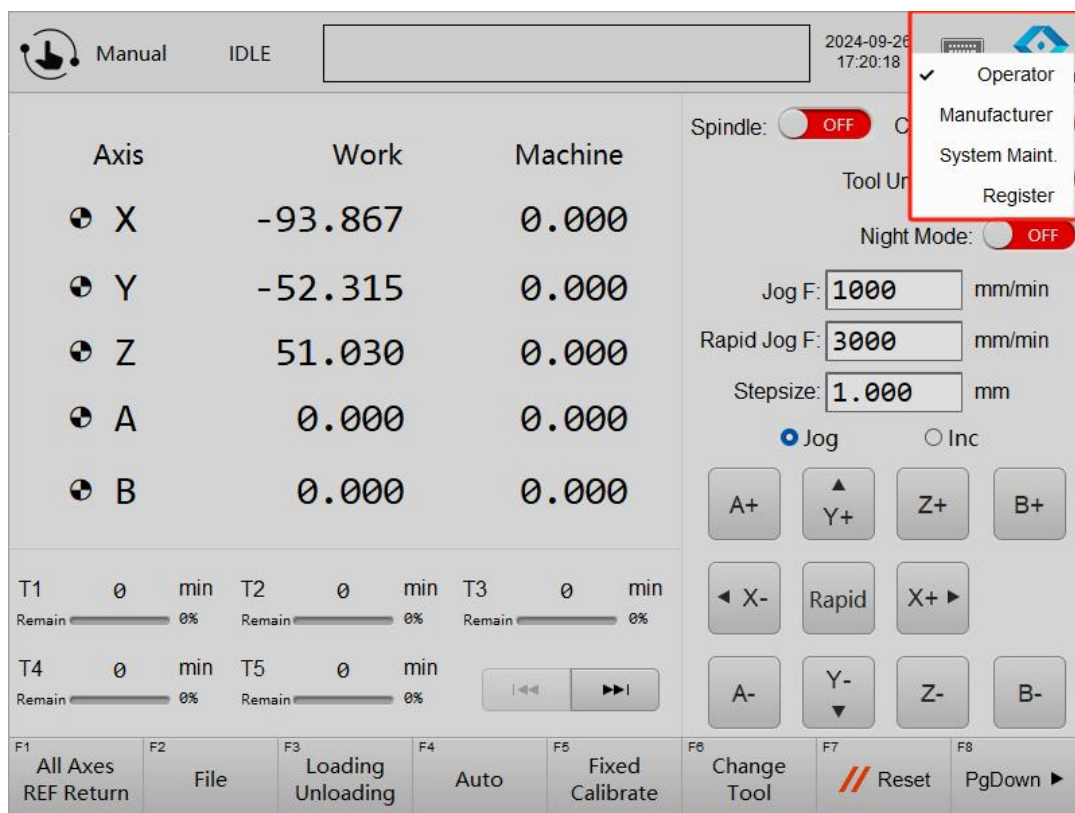

Figure 7.2.1 Toggle authority
(1) Click on the upper right corner of the machine tool operation interface, as shown in Figure 7.2.1, and select the "Manufacturer" option.